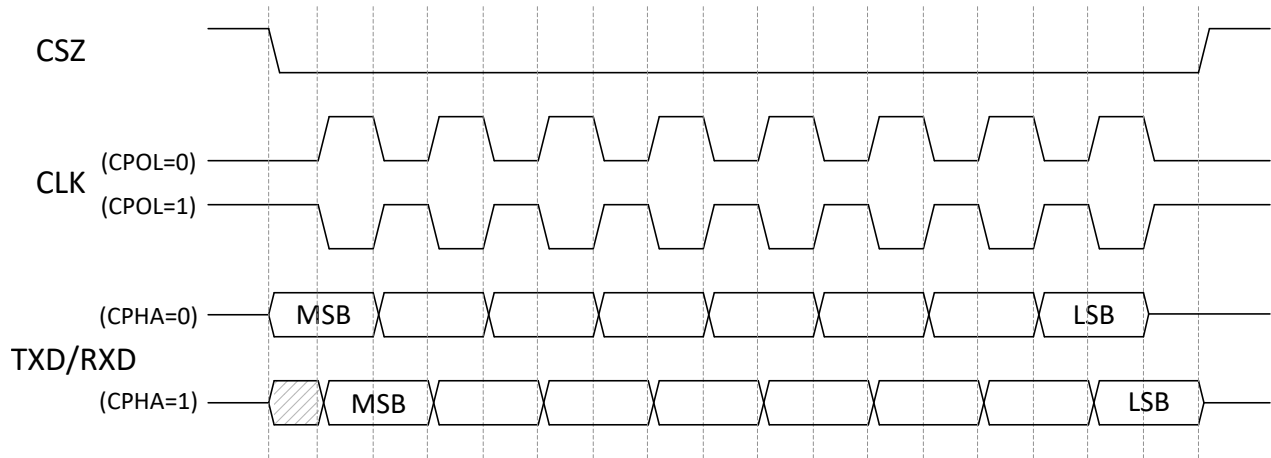

图 6-15. Timing Diagram for SPI Clocking Modes
- (1) The DLPC6540 SPI interfaces support SPI Modes 0, 1, 2, and 3 (that is, both clock polarities and both clock phases) as shown in 表 6-2 and 图 6-15. As such, each SPI interface configuration must be setup to match the SPI mode being used.